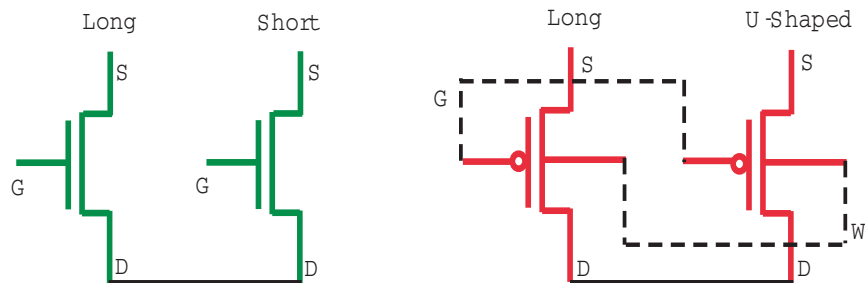
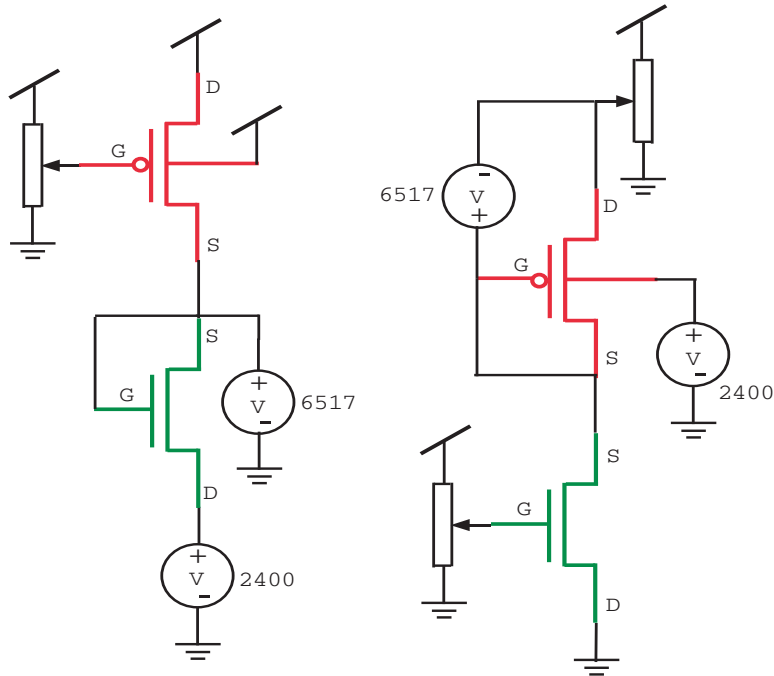

Figure 2.1:
Figure 2.5:
The class chip has two n -well transistors and two p -well transistors. One is long (7/73 width/length in units of λ) and one is U-shaped (6/45+10+45 width/U-lengths). The pin labels for these transistors are shown in Figure 2.1. Remember, the source and the drain of any transistor is defined by their relative voltages. Therefore the labels may not actually represent the true source and drain of each transistor, as is apparent in Fig. 2.5
The setups for this experiment are shown in Figure 2.5:left. Use the well device as a current source; set the gate voltage to around 2.05V so that the transistor sources about 1 nA of current.
For the well device, (Fig. 2.5:right), use the native long transistor as a current sink, with its gate voltage around 0.25V for a 1nA bias current. Set the well-device (D) pin to 1.5V above Gnd using a potentiometer. Sweep the well from 0.0V to 1.5V *below* V_{dd} using the 2400 and measure the gate voltage. Remember that the gate and well voltages have the source as their reference (as in prelab). Do *NOT* take the well lower than the source voltage!